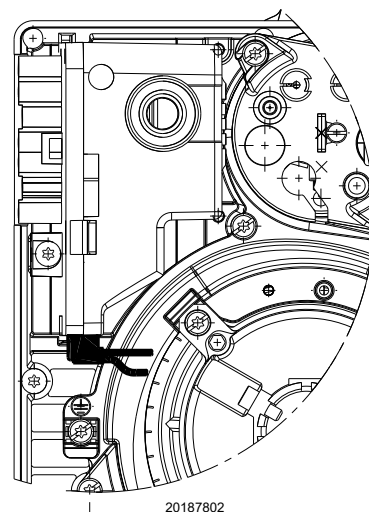

Fig. 19
- Check proper insertion of connection connectors according to the symbols shown on the bottom of the flame control equipment: make sure that the connectors are fully inserted by pushing them all the way in, each in its relevant position. All connectors must have the connection cables facing towards the inside of the burner (see Fig. 19).